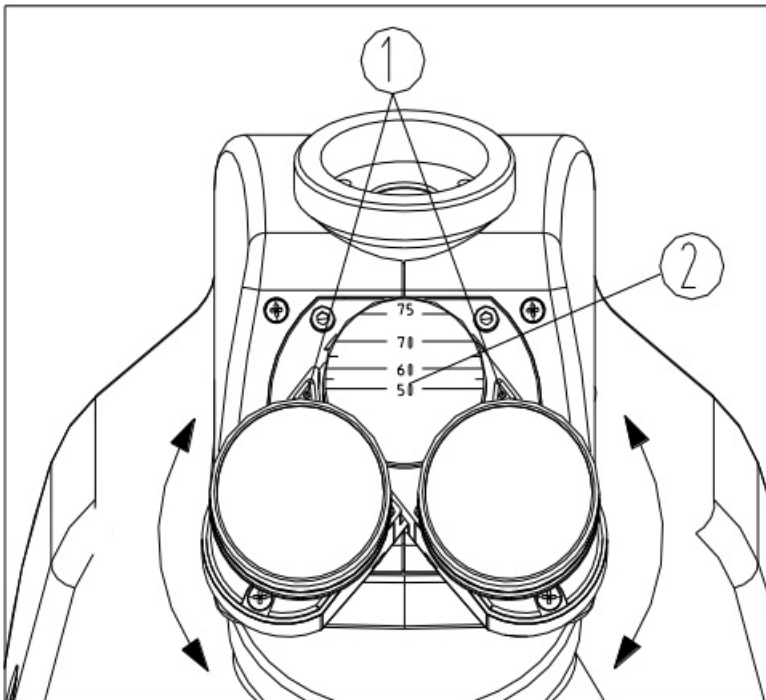

Fig. 13
1. When observing with two eyes, hold the base of the eye tubes and rotate them around the axis until there is only one field of view. “ ” mark ① on the eyetube base points to the scale ② of interpupillary indication, means the value of interpupillary distance (see **Fig. 13**).